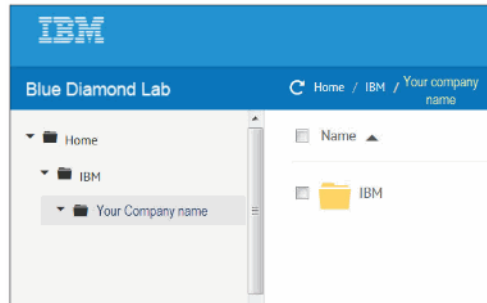

Figure 8-22 Navigate your company folder
4. Navigate to the folder that contains your company name (IBM/YourCompanyName). See Figure 8-22.